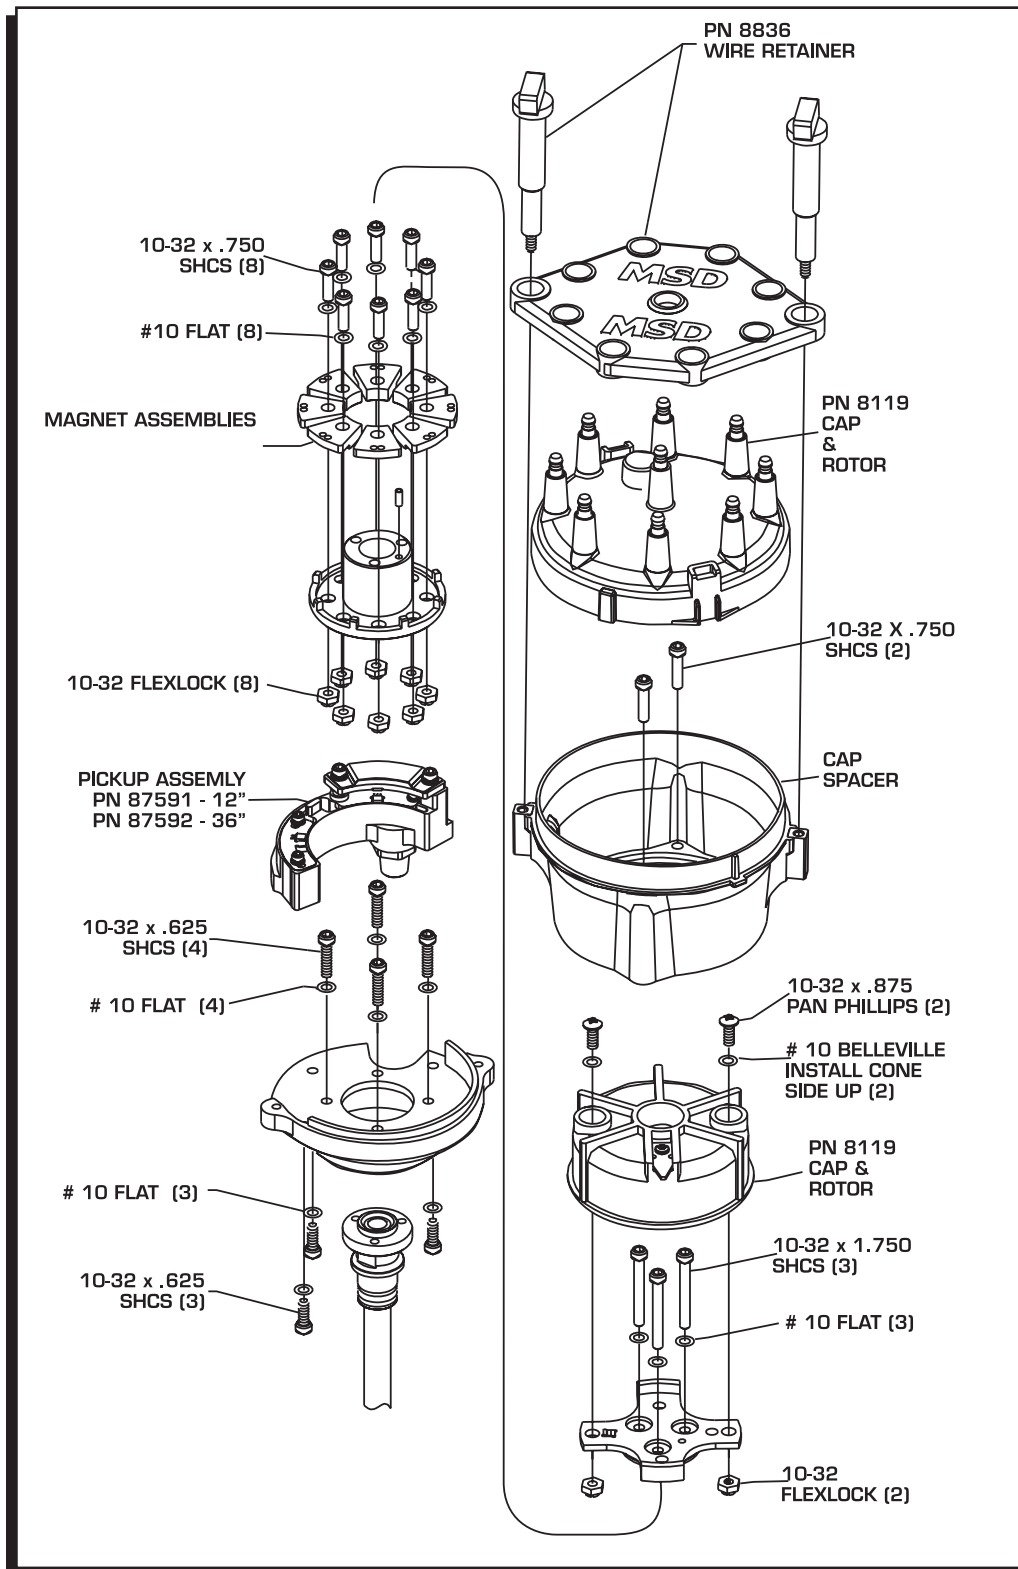

Figure 7 Distributor Head Exploded View.
1. Remove the upper housing of the distributor by removing the three rotor drive screws and the four upper housing screws (Figure 7).